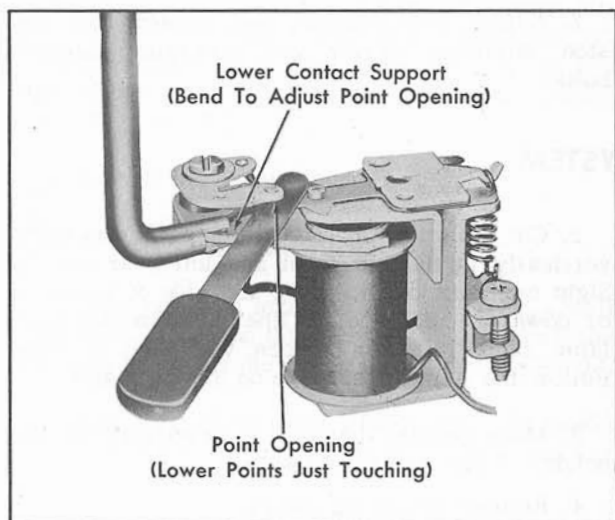

Fig. 12-13 Checking and Adjusting Voltage Regulator Point Opening
1. Push armature down until lower set of contacts are just touching, measure point opening between upper set of contacts, Fig. 12-13. Point opening should be .016".
(7) Removal of Generator